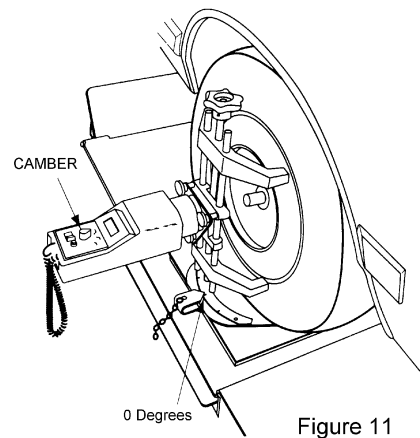

Figure 11
- 5) Mount the Electronic Gauge on the left front Wheel Clamp. Be sure the magnet is centered on the mounting disk (See Fig. 11).